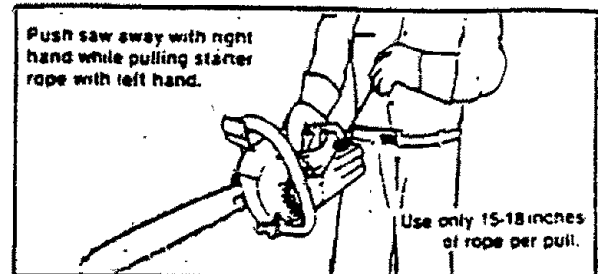

Figure 14
- d. Squeeze trigger with your right hand while pushing saw away from you and pulling the starter rope with your left hand. Figure 14.